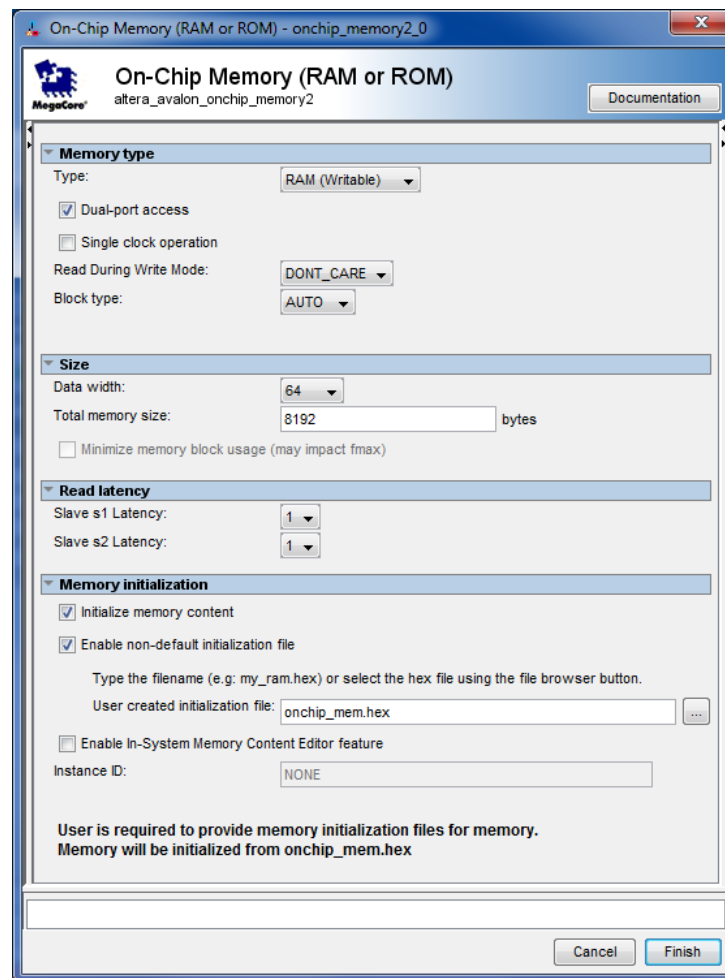

Figure 7. Settings for On-chip Memory.
- Check the check box of **Enable non-default initialization file** as shown in Figure 7.